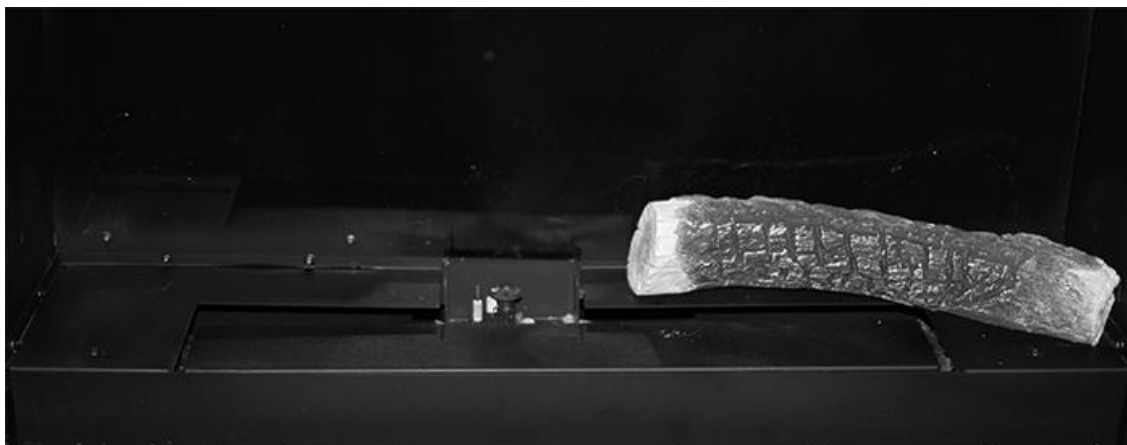

Figure 38 - Placing log #1
1. Place right side logs (#1 and #2) on the rear log support of the firebox according to *Figure 38 and 39*.